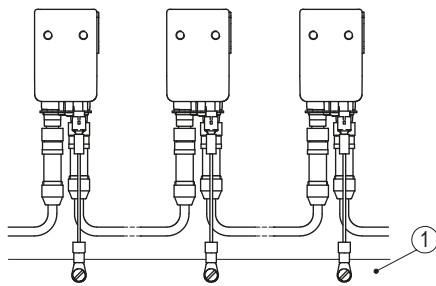

Fig. 5: Ground bar
For protection against interference, the screens of the signal lines and the power line must be connected on both sides. Potential differences cause inadmissible currents on the screen. Install the PE connection ④ onto the protective earth conductor potential between the plug connectors (see Fig. 4). Use 6.3 mm flat connectors with short strands  $2.5 \dots 4 \text{ mm}^2$  (not in the scope of delivery). For multiple position indicators we recommend connecting the earthing to a ground bar ① (see Fig. 5).